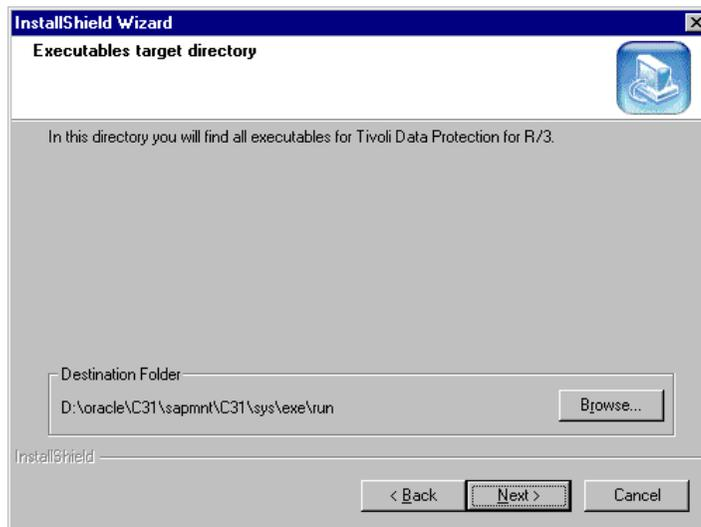

Figure 71. Choose folder for executables
7. Choose the destination (see Figure 71) where you want to put the TDP executables and libraries needed for R/3 (backint.exe, backfm.exe, prole.exe, backintv3_en_us.dll). Check the path and correct it if needed.